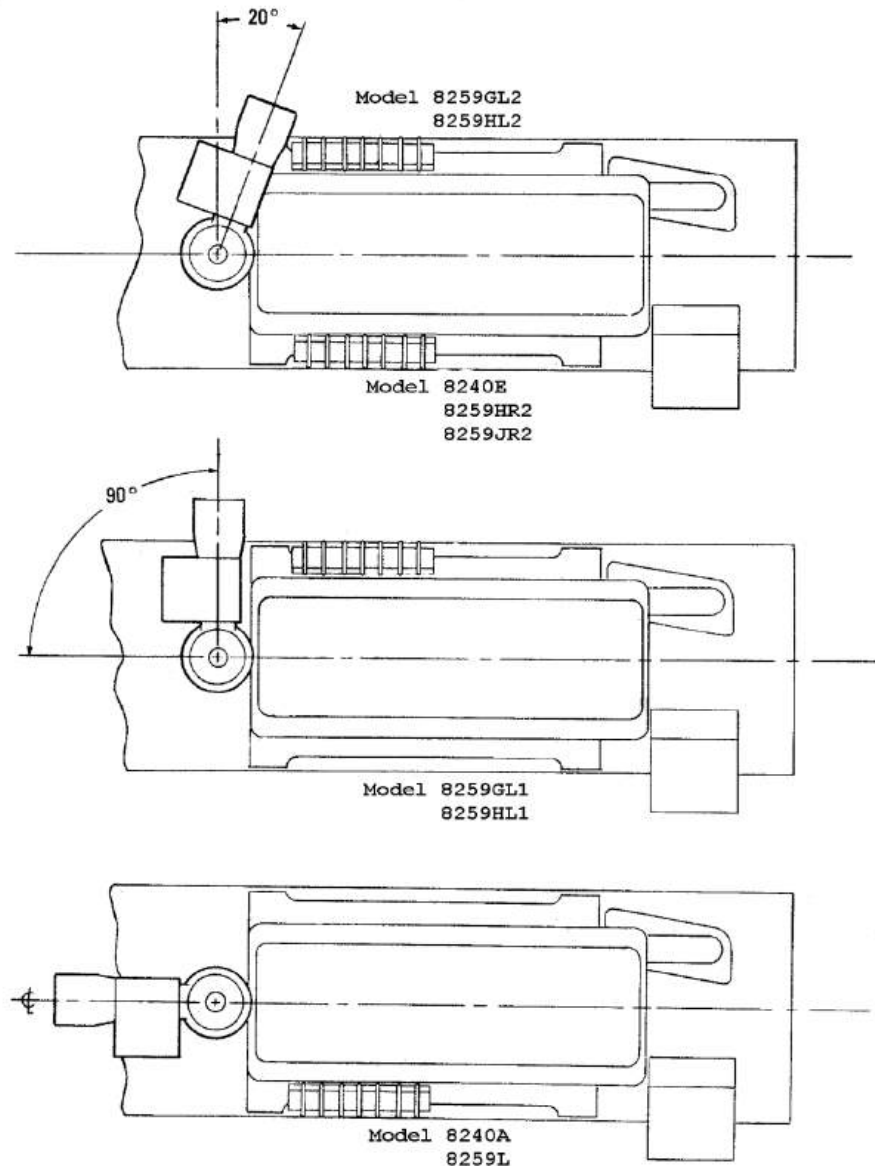

Figure 12-1 - Airflow Switch Positions For Different Heater Models
6. Different models of the heater assembly require different positioning of the inlet port of the airflow switch (5). Refer to figure 12-1 for information regarding airflow switch orientation at reassembly.